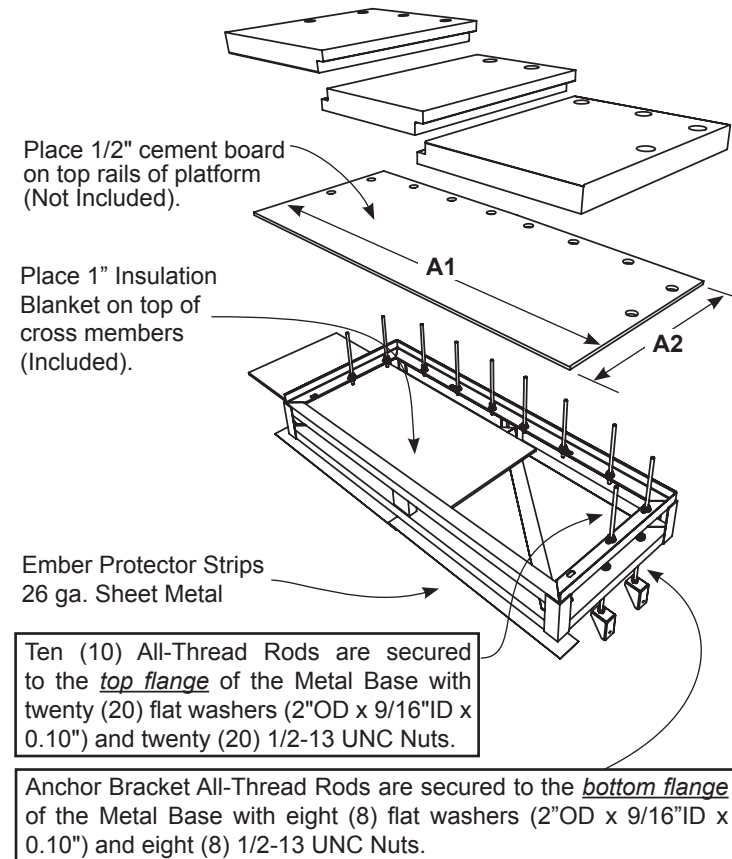

Figure 32 - MMB63 Metal Base Assembly
Attach the firebox side wall anchors to steel support frame by inserting all-thread rods through holes on the bottom flange on the steel support frame as shown in Figure 32 and 33, page 21. Secure with two Ø 2" o.d. x Ø 9/16" i.d. x 0.10" Washers and two 1/2"-13 UNC Nuts.
A layer of 1/2" minimum Cement Board (Not Included) is required on the top and mid section below as shown in Figure 32, page 21. The required sizes are shown in the table below.
a) **Combustible Floor Installations:** Mix up a batch of mortar and adhere hearth slabs to the cement board (see Figure 32 & 33, page 21). All-thread rods should stick up through the holes on the hearth slabs.